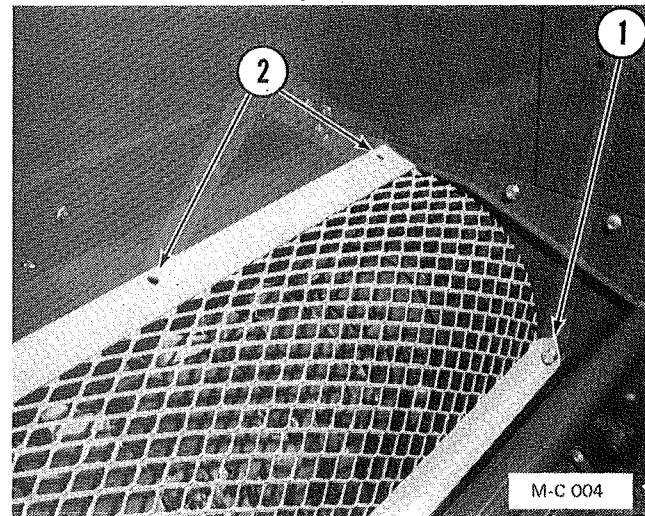

Figure 8
3. Place the leaf mulching screen in place as shown in Figure 8. Bolt both bottom ends in place with 3/8-16 x 3/4" hex-head capscrews, lockwashers and hex-nuts, see 1 in Figure 8.
4. Install the rear cover over the leaf mulching screen by reversing the procedure in step 2. The five capscrews, lockwashers and flatwashers removed from the top of the rear cover go through the rear cover and the holes at the top of the leaf mulching screen, see 2 in Figure 8.